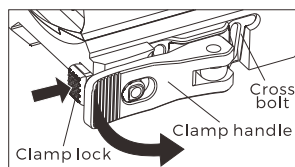

Fig4-1
2. Designed with our patented nonlinear cam clamping system, no tools are required for attaching to a rail. Push locking button, lift up handle to loosen the locking bar. To mount sight on rail, push the handle down, locking button will automatically engage. The installation is complete. (fig 4-1)